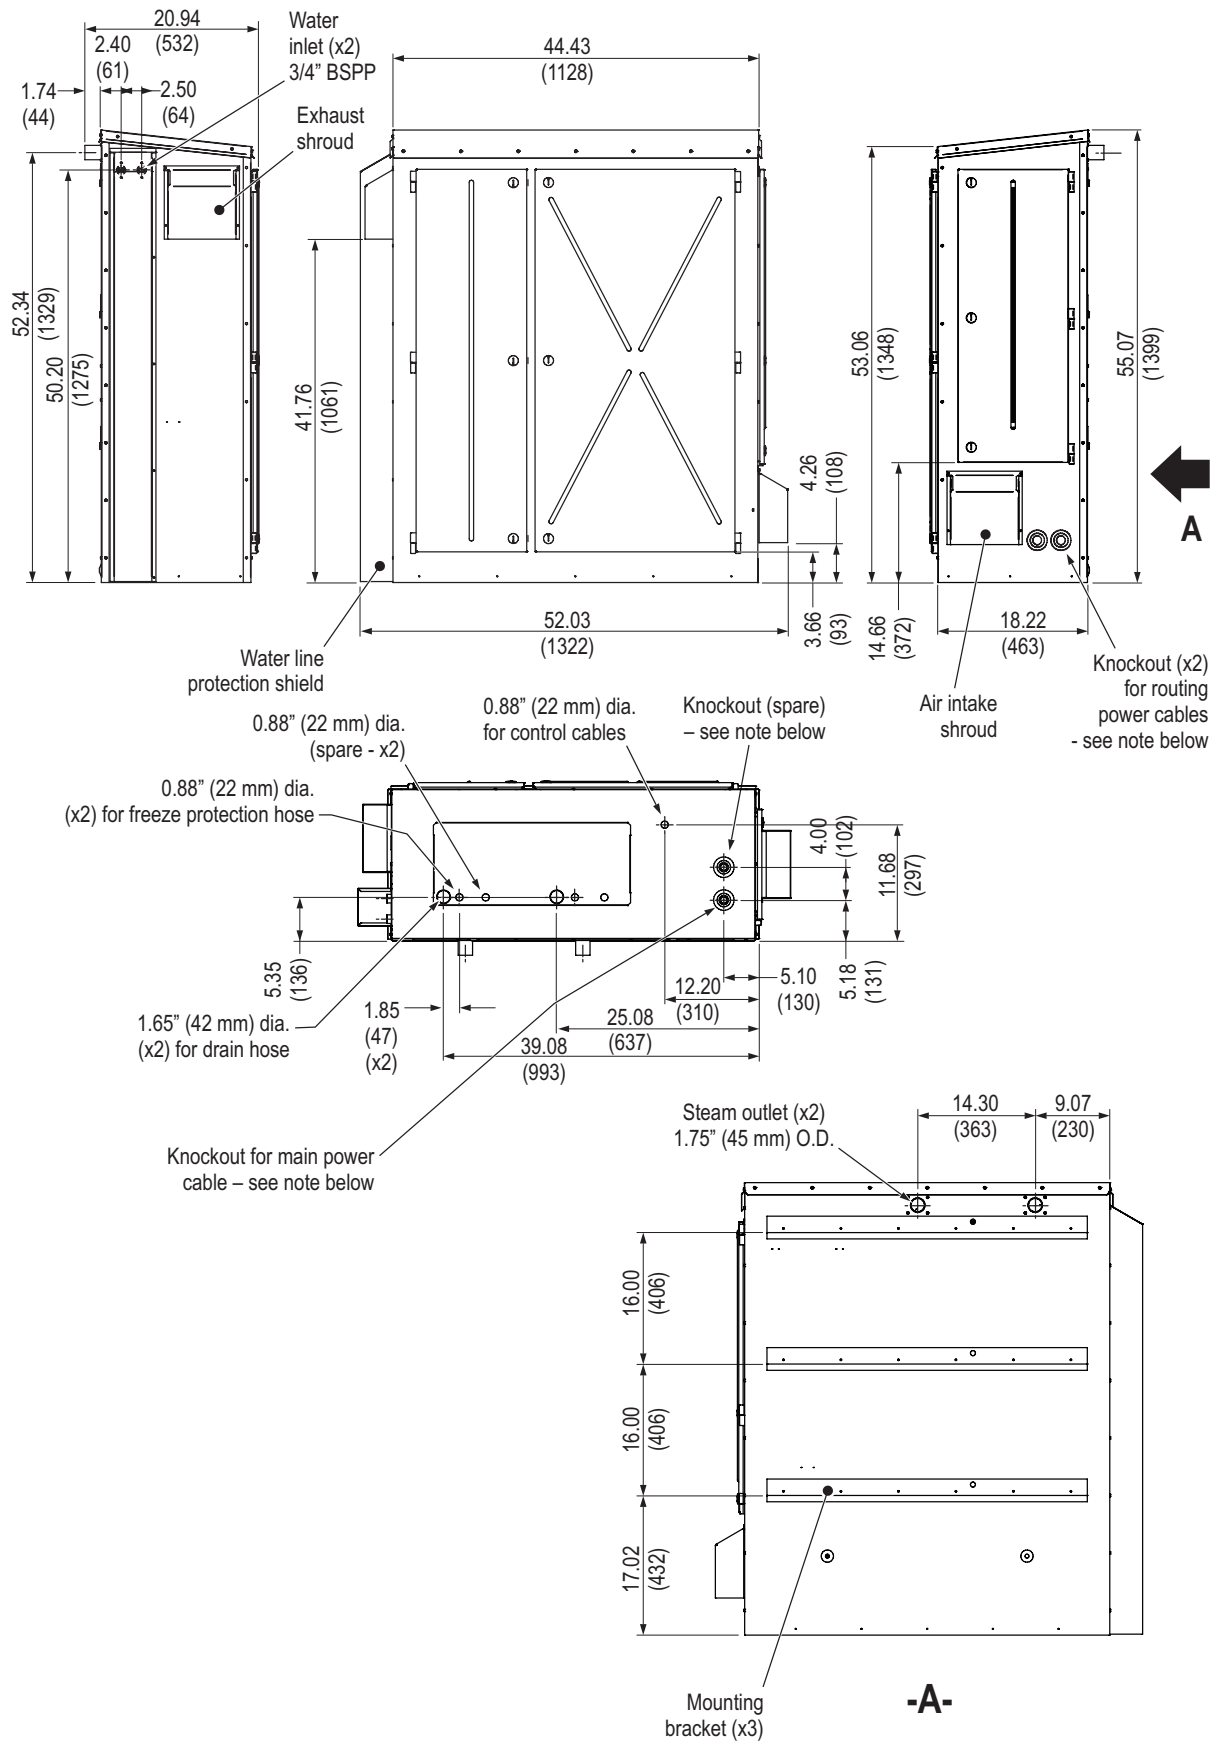

Figure 26: Nortec EL/RS Outdoor Steam Humidifier, Large Housing*
* Nortec EL-OC 050-100 and Nortec RS-OC 010-090. For Nortec RS-OC 090 with two cylinders, refer to Figure 26 on page 63.